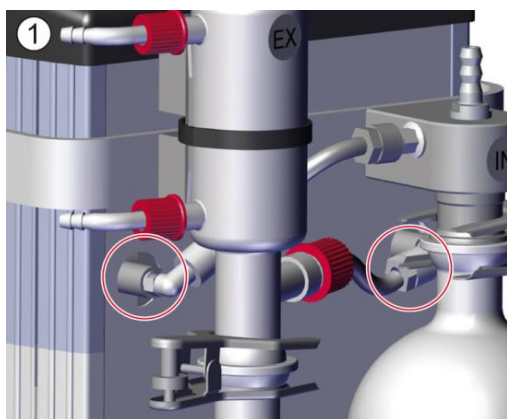

Fig. 8.1 – Glass apparatuses with pneum. connection on intake and pressure sides (front)
1. Release the pneum. connections on the intake and pressure sides (Fig. 8.1).